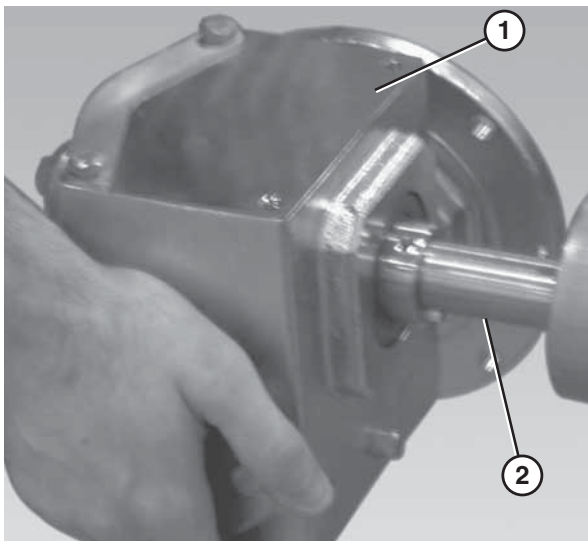

Figure 13
2. Slide the gearmotor assembly (Figure 13, item 1) onto the drive spindle (Figure 13, item 2).